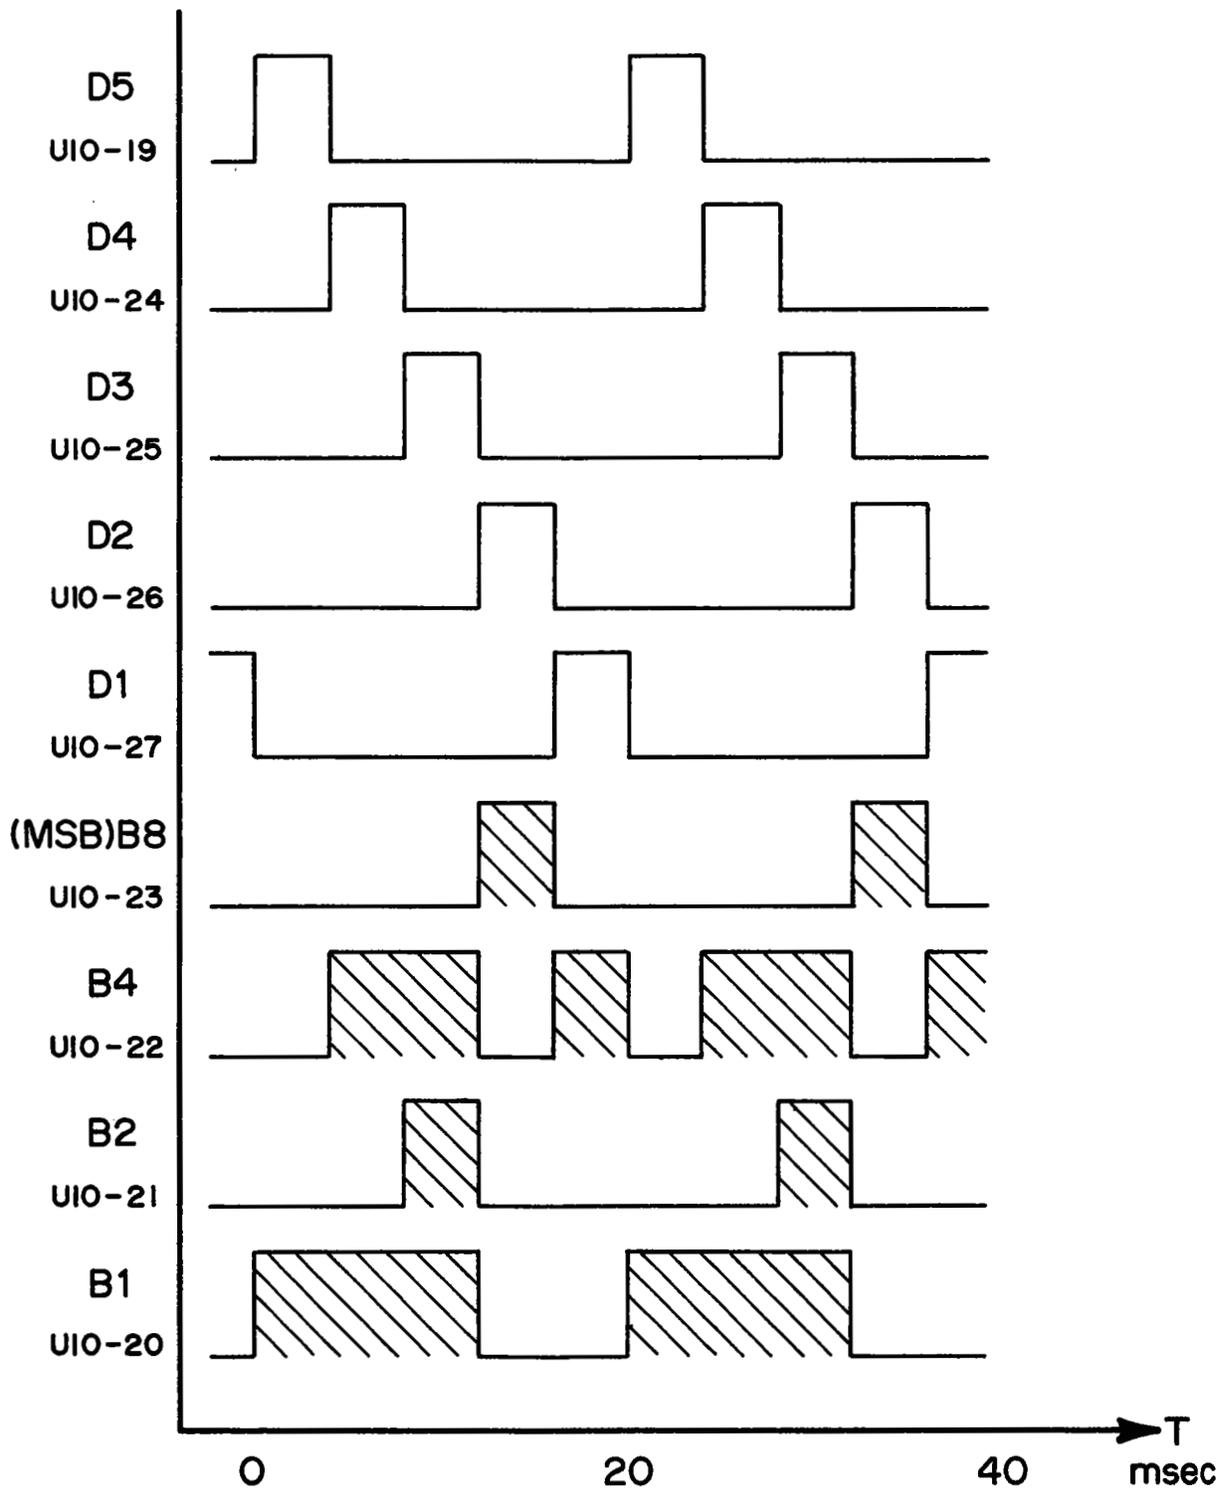

Figure 5.1 DRC-80 A/D Typical Output Signals
- 2) Check for the waveforms at the following pins and refer to Fig. 5.1 for waveforms.
DRC-80 Signals Associated with Figure 5.1